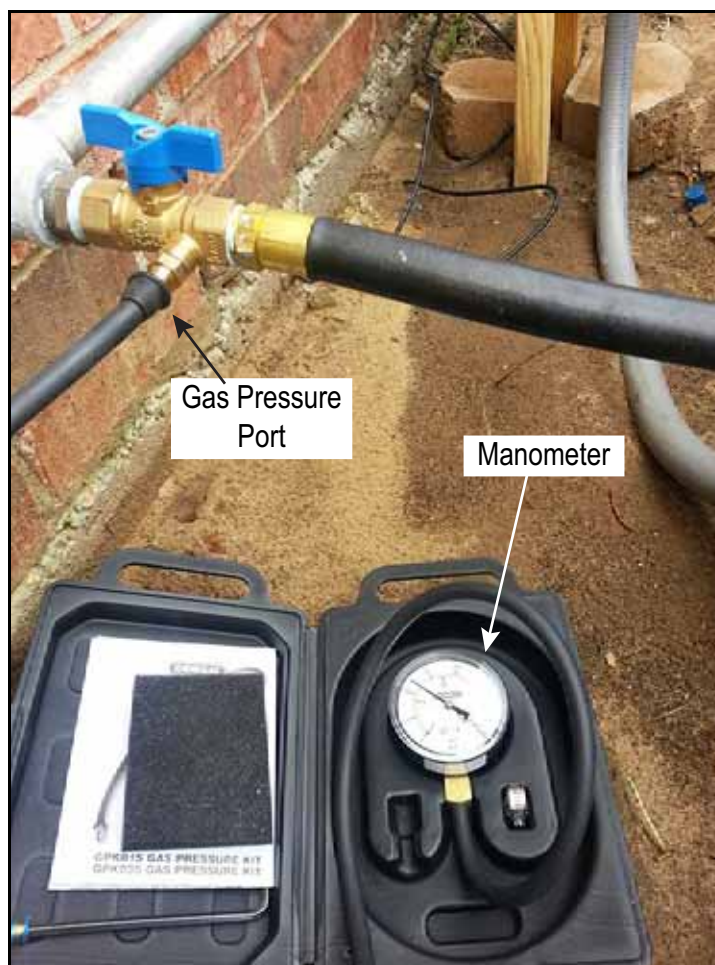

Figure 5-5. Checking Pressure with Manometer
- Remove the top gas pressure test port from the regulator (see Figure 5.5) and install the gas pressure tester (manometer).